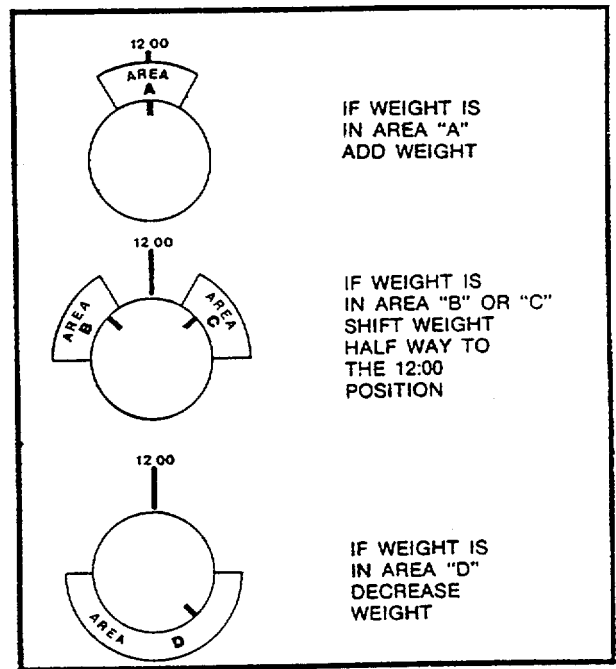

Figure 8. Weight Positioning and Movement
14. Repeat steps 8 through 13, except observe position of INITIAL WEIGHT, not reference mark. Refer to Figure 8 for amount of weight change and placement of weight.